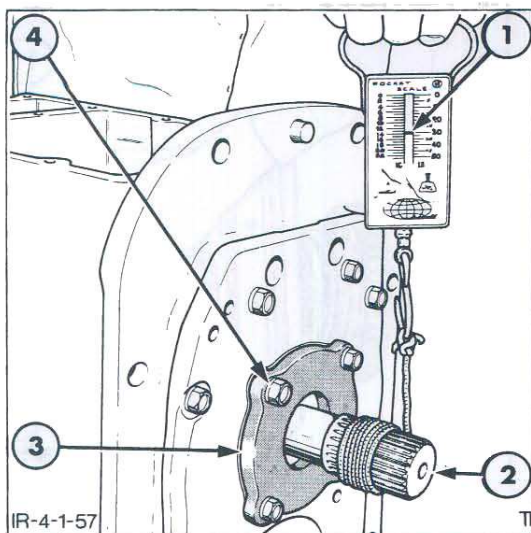

Figure 64
8. Wrap a suitable length of cord around the output shaft splines, Figure 64. Ensure that the cord does not overlap. Attach a pull scale to the cord and measure the pull required to rotate the output shaft.